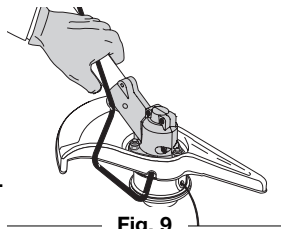

Fig. 9
2. Hold the locking rod in place by grasping it next to the boom of the unit (Fig. 9).